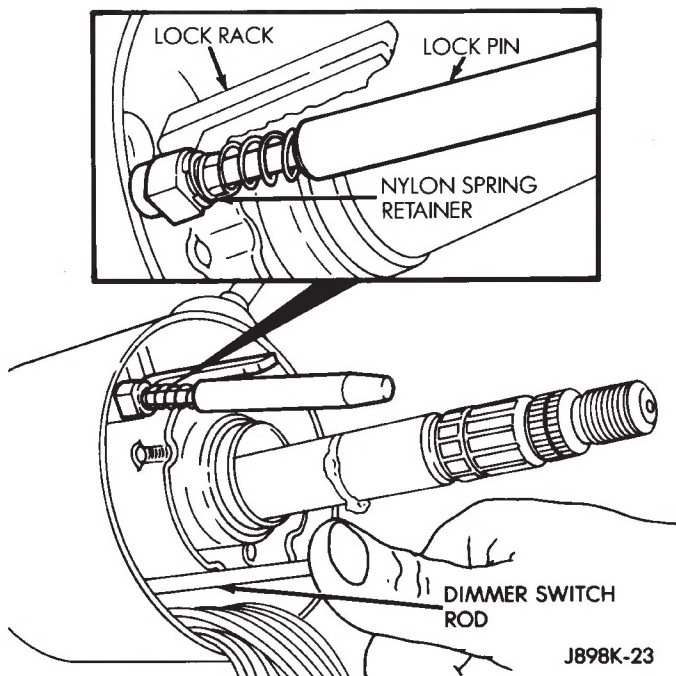

Fig. 28 Check Dimmer Switch Rod and Lock Pin
(35) Remove pivot screw from housing and remove wiper switch.
(36) Install a new switch and switch cover.
(37) Push on dimmer switch rod to make sure it is connected then carefully position housing and shroud assembly to column (Fig. 28).